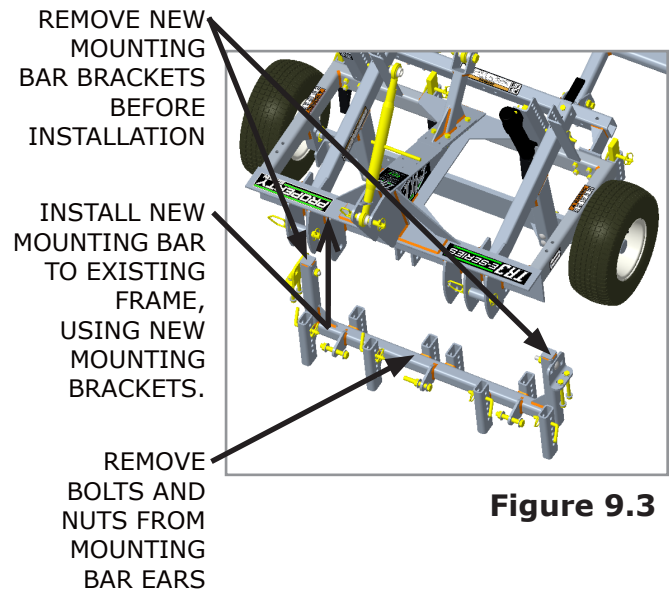
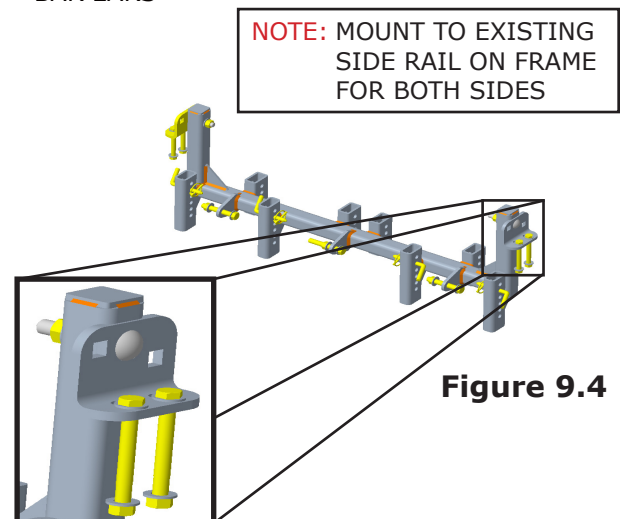

Figure 9.3
Figure 9.4
3. Remove the new mounting brackets on both ends of the new Food Plot Disc Mounting Bar Kit using (2) 3/4" wrenches and (1) 15/16" wrench as well as the bolts and nuts from the new Mounting Bar ears using (2) 15/16" wrenches (**Figure 9.3**).
5. Reattach the new mounting brackets (removed in step 3) by aligning the two holes in the new mounting brackets with the two holes in the existing frame, on both ends, using (2) 3/4" wrenches.
6. Slide the new Carriage bolt into the top hole in bracket and through the hole in mounting bar and tighten nut using (1) 15/16" wrench (**Figure 9.4**).